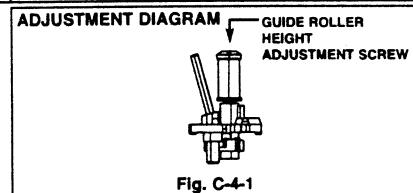

Fig. C-4-1
- 4) Adjust the height of the guide roller to ensure that the tape is guided on the guide line of the lower drum at the inlet/outlet of the drum. (Fig. C-4-1)